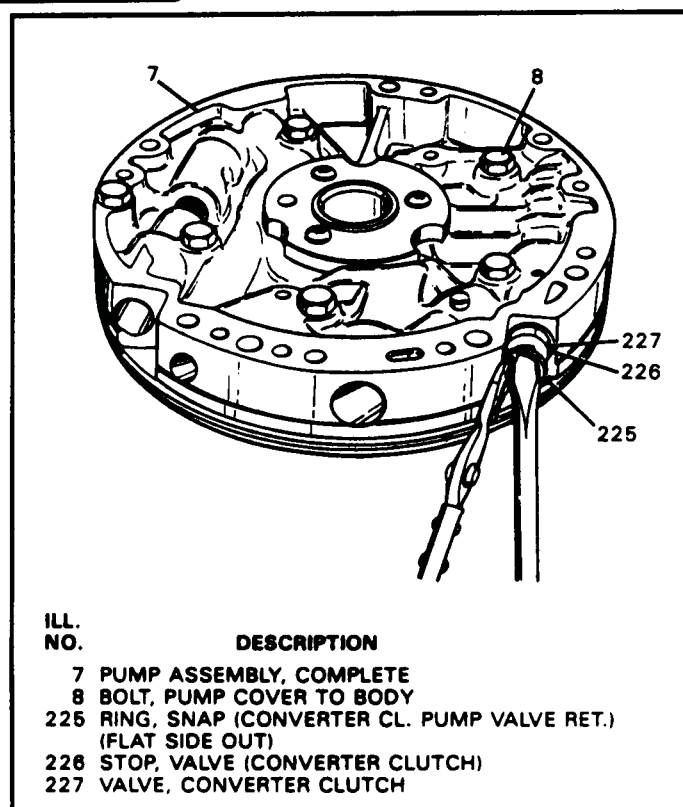

Figure 133
23. Use a small screwdriver to push the bore plugs into position and snap ring pliers to install the snap rings as shown in Figure 133.